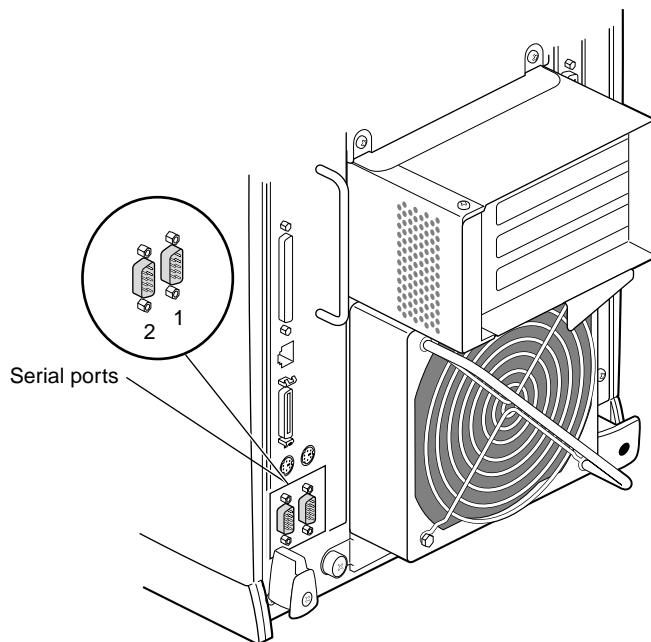

Figure 6-12 Locating the Serial Ports on the System Module
1. Locate the serial ports on the back of the Octane workstation, as shown in Figure 6-12.